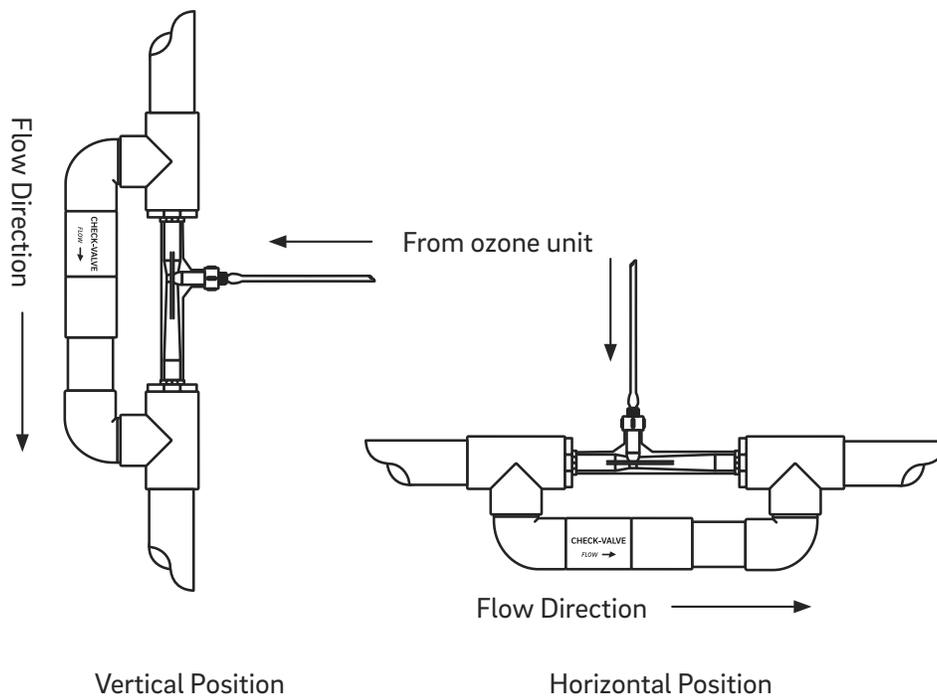

Figure 4
1. The venturi injector manifold is the recommended method for delivering ozone into the pool or spa system. When installing, a vertical or horizontal position can be utilized in order to accommodate for conditions where limited space is available and the unit should be installed on a separate return line, avoiding the in-floor valve (Figure 4). This injector manifold incorporates a 2" check-valve into the design that will self adjust based on the amount of flow passing through the manifold, ensuring that flow rates between 54-90 gpm are maintained.